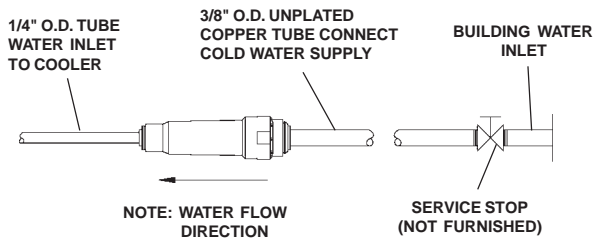

FIG. 5
6. **Connect** the fountain to the supply line with a shut off valve and install a 3/8" (10mm) unplated copper water line between the valve and strainer. Push the tubes straight into the fittings until they reach a positive stop, approximately 3/4". See Figs. 5 and 6. **DO NOT SOLDER TUBES INSERTED INTO THE STRAINER AS DAMAGE TO THE O-RINGS MAY RESULT.**
11. **Stream** height is factory set at 35 PSI. If supply pressure varies greatly from this, turn adjustment screw on regulator (item 23). Clockwise adjustment will raise the stream height and counter-clockwise adjustment will lower stream height. For best adjustment, stream should hit basin approximately 6-1/2" from the bubbler.